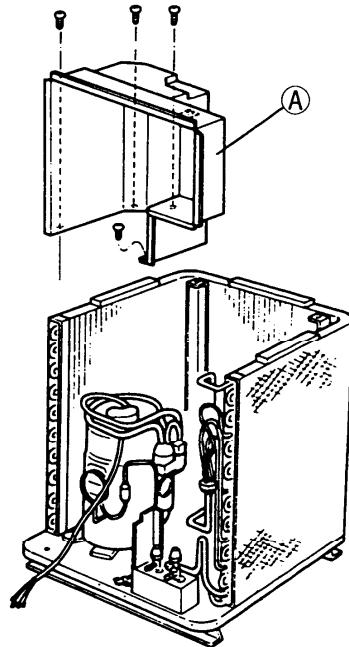

Fig. 20
- 1) Unfasten four screws fixing the cover **A**. The cover can be removed by lifting it upward. Fig. 20